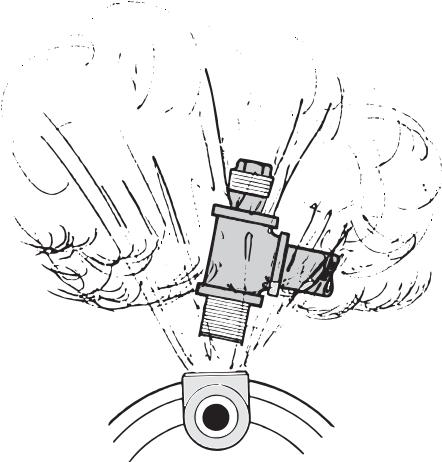

Figure 2 – Do Not Run Pump With Outlet Shut Off
- When using a garden hose as a discharge line, do not run the pump with the hose outlet or the nozzle closed. The hose or the nozzle may burst from excessive pressure. See Figure 2.